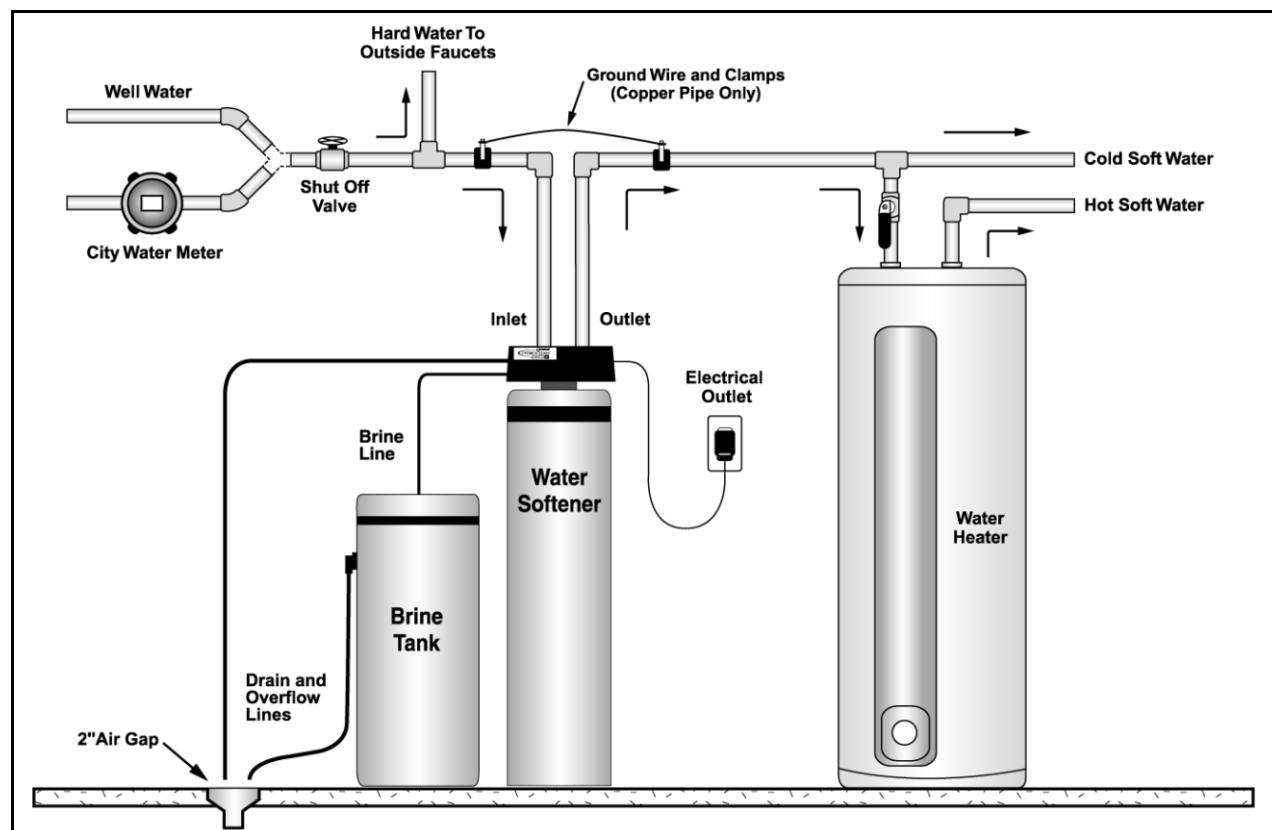

Figure 3: Appliance Placement
- F. Place the appliance in the desired location using Figure 3 as a guide. The diagram in Figure 3 applies to basement, slab, crawl space, and outside installations.